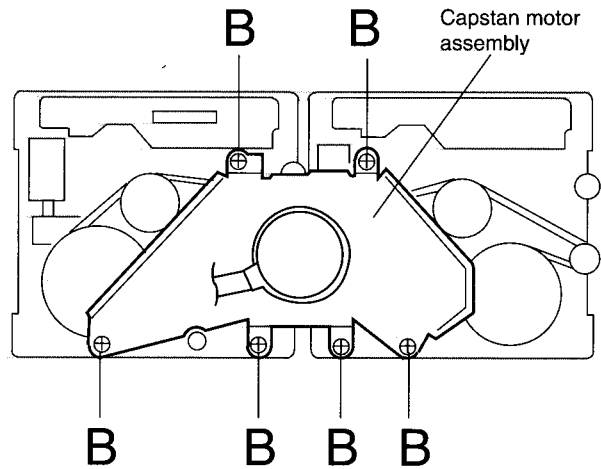

Fig.5
- 1.Remove the six screws "B" retaining capstan motor assembly (See Fig. 5).